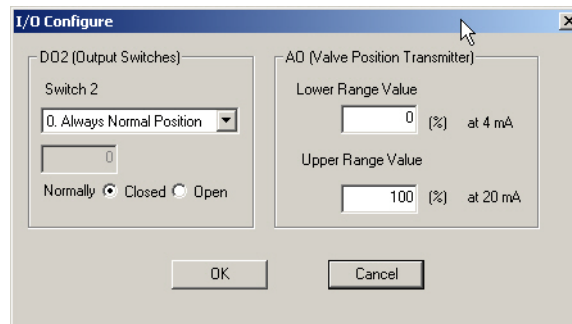

Figure 70 I/O Configure
This procedure gives an example, using the settings in Figure 70, to see if a switch is operating:
1. Click the **Configure** tab, click and Figure 70 appears.